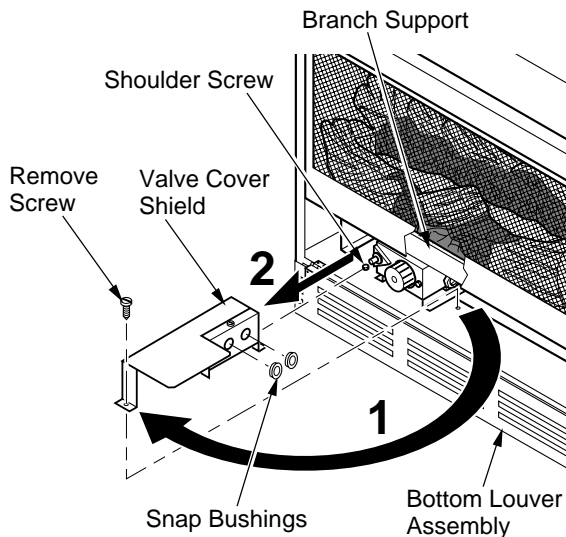

Figure 17 - Removing Valve Cover Shield
1. Open bottom louver assembly by swinging the assembly down (see Figure 17).
IMPORTANT: Do not remove shoulder screw on the left side of valve cover shield. Slide the valve cover shield off of the shoulder screw (see Figure 17).